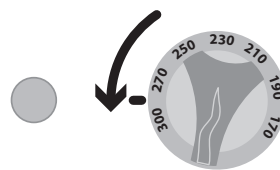

Fig. 8A
3. Turn the thermostat knob to "Zero" (Fig. 8A) to stop heat generation.